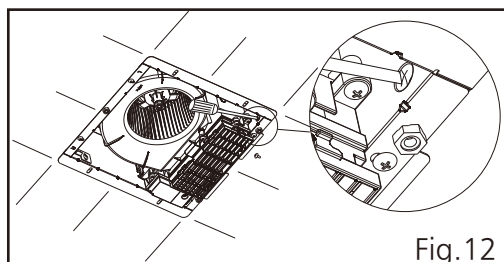

Fig.12
8. Use one of the ST4.2X30 self-tapping screws provided in the accessory package to fix the product frame and the hanger unit.(Fig.12)